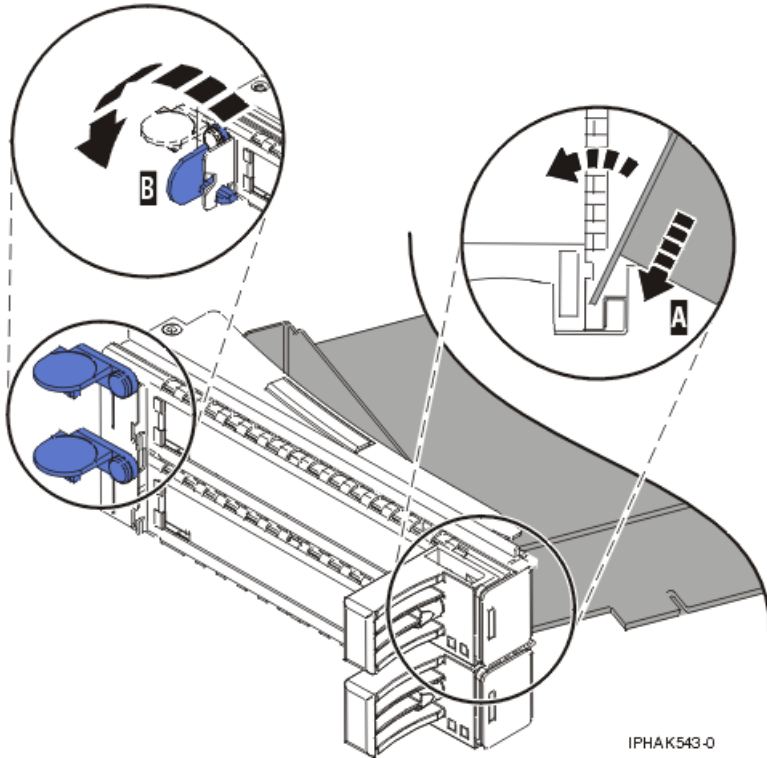
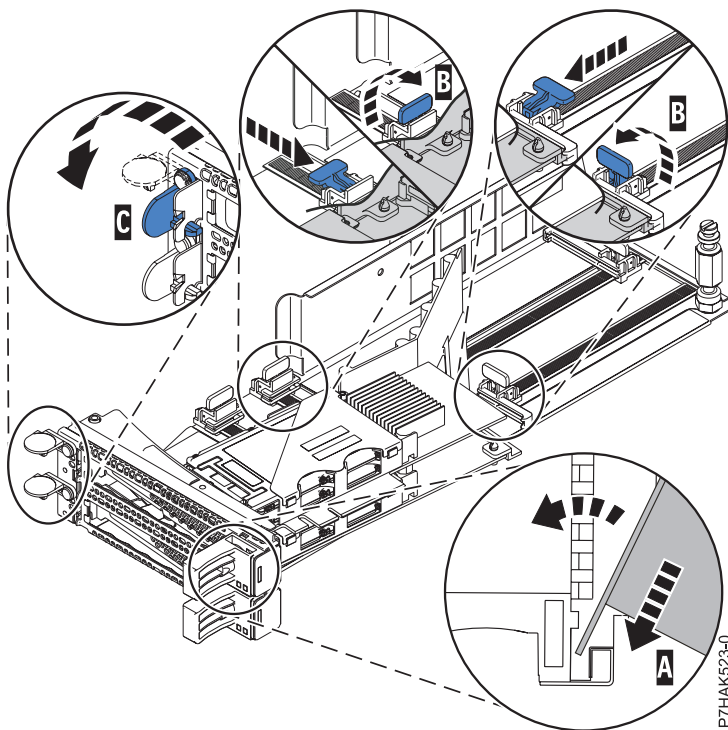

Figure 98. Adapter replaced in the PCI adapter cassette
Figure 99. Replacing a PCIe RAID and SSD SAS adapter into the PCI adapter cassette
- a. With the tailstock clamp in the open position, insert the adapter firmly into the tailstock retaining channel (A). For a typical PCI adapter, see Figure 98 on page 104. For a PCIe RAID and SSD SAS adapter, see Figure 99 on page 104.
- c. Close the tailstock clamp (C).